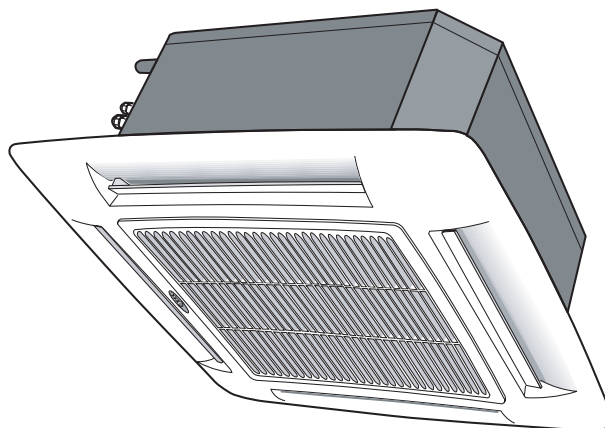

Fig. 1 — 619FNF, FNQ Unit
These instructions cover the installation, start-up and service of in-ceiling cassette fan coil units. See Fig. 1.
A. Unpack Unit (See Fig. 1)